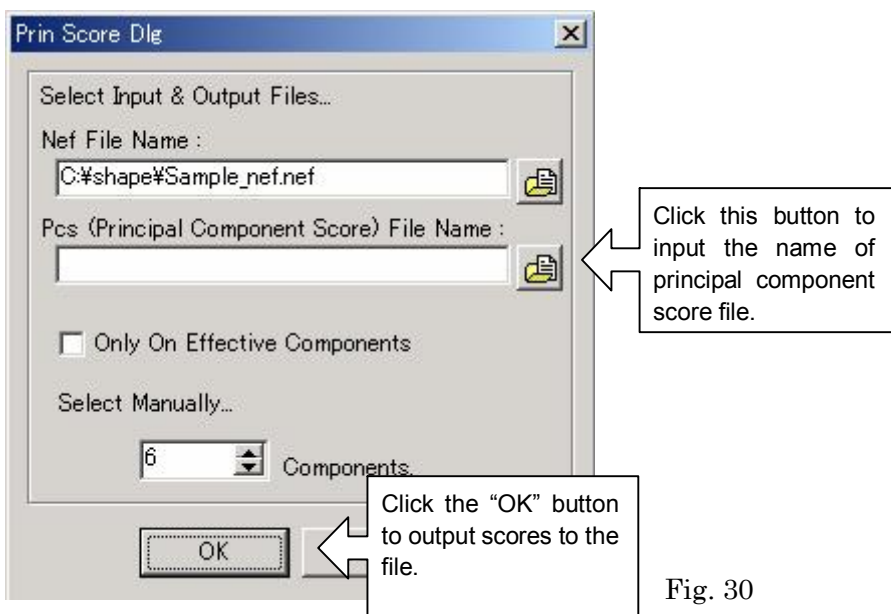

Fig. 30
29. Select the NEFDs file (which is automatically selected by the program) and input the principal component score file name (*.pcs) (this is done automatically by clicking the button beside the box) (Fig. 30). You can also change the number of the components for which the scores are calculated. Then, click the "OK" button. The file will then be saved in tabbed text format and can be opened as a Microsoft Excel worksheet for succeeding analysis from the appropriate (e.g. biological) perspective.